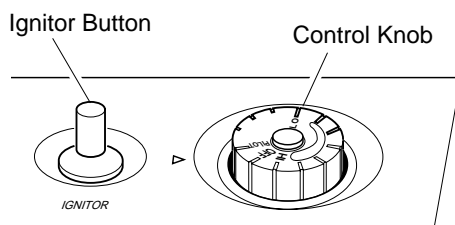

Figure 23 - Control Knob In The OFF Position
4. Wait five (5) minutes to clear out any gas. Then smell for gas, including near the floor. If you smell gas, **STOP!** Follow "B" in the safety information, column 1. If you don't smell gas, go to the next step.
5. Turn control knob counterclockwise to PILOT position. Press in control knob for five (5) seconds (see Figure 23).